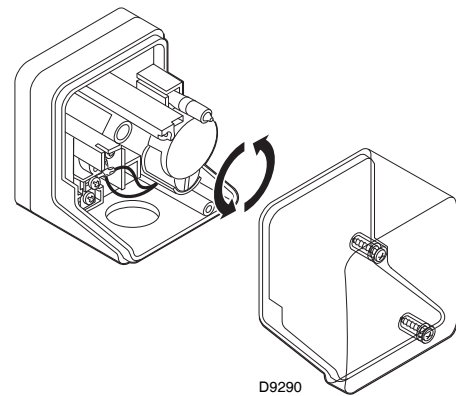

Fig. 40
- Adjust the minimum gas pressure (Fig. 40) switch to the start of the scale.
Adjust the minimum gas pressure switch (Fig. 40) after having performed all the other burner adjustments with the pressure switch set at the start of the scale.